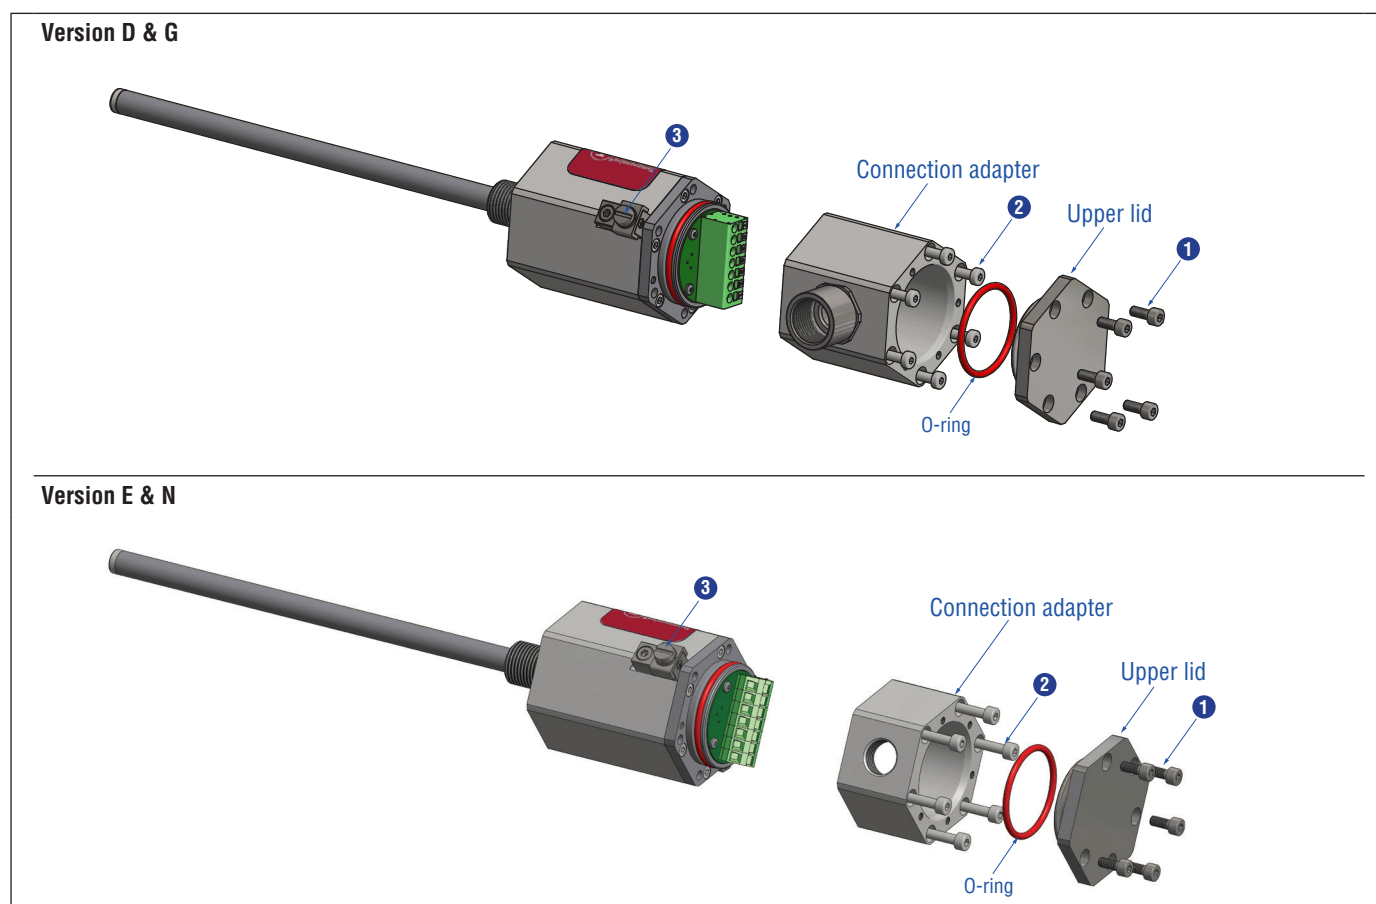

Fig. 6: Temposonics® TH exploded view drawing
Loosen the five hexagonal screws M4 (AF 3) and remove the upper lid (fig. 6). Then loosen the six hexagonal screws M4 (AF 3) of the connection adapter (fig. 6). Change the orientation of the connector on six different positions at 60° each. Note the example on pages 20 ff..
- Remove the cover plate as shown in fig. 6 on page 12 to connect the cables to the sensor.